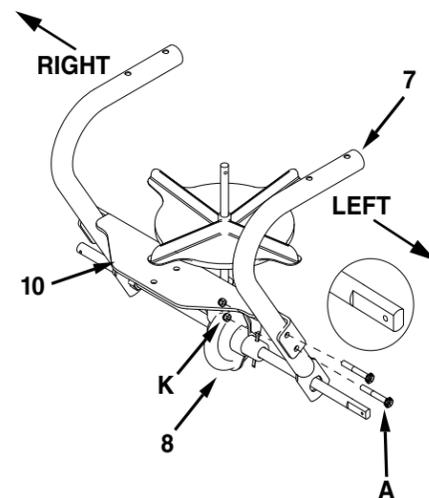

Figure 3
STEP 3 (SEE FIGURE 3): Loosely attach the frame tubes (7) to the crossover brace (10) using four 1/4 x 1-3/4" hex bolts (A) and 1/4" nylock nuts (K). **Do Not Tighten!** Insert the long end of the axle through the right side of the frame tube assembly and then insert the flat end through the left side of the frame assembly as shown.